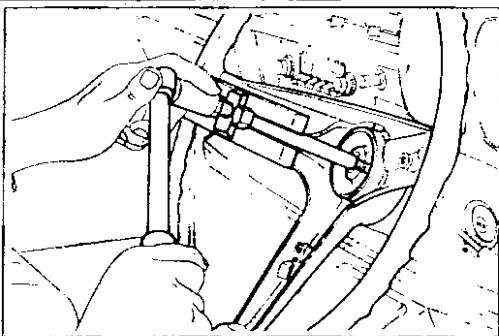
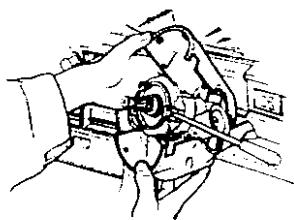

Fig. K.15 Removing the steering wheel.
Fig. K.16 Removing the column shell covers.
3. Remove the steering wheel nut, using the special puller ST 27180000 (Fig. K.15.) Remove the column shell covers (Fig.K.16) and the turn signal switch assembly.